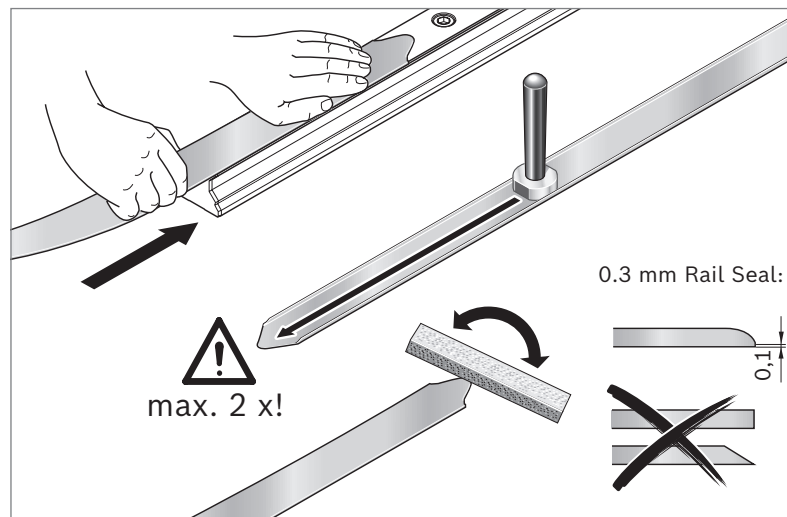

Fig. 49: Checking the sliding fit
- ▶ Before sliding on the Rail Seal, make sure that the seal tongue is angled slightly downward to ensure it can be easily slid under the sealing lip of the runner block. ➡ Fig. 49